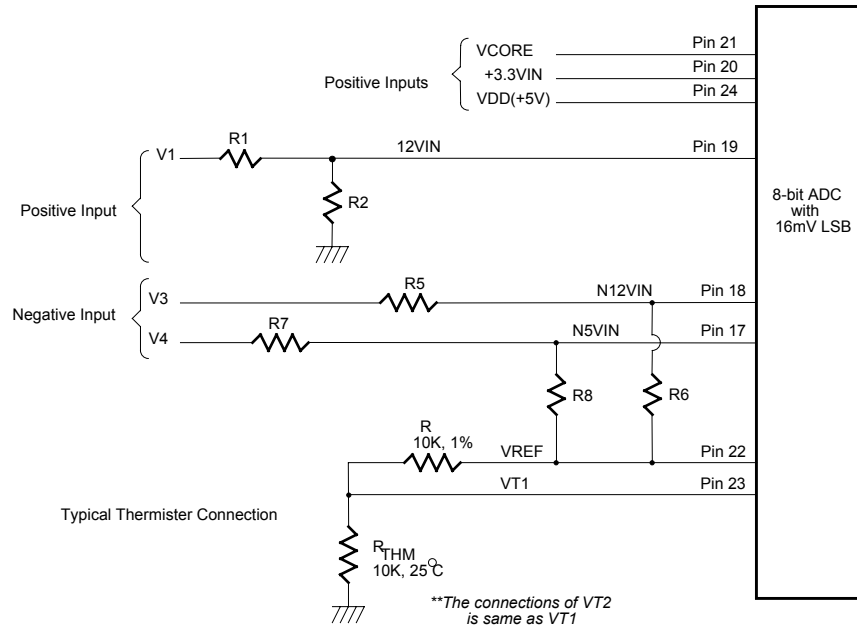

Figure 11.
The maximum input voltage of the analog pin is 4.096V because the 8-bit ADC has a 16mv LSB. Really, the application of the PC monitoring would most often be connected to power suppliers. The CPU V-core voltage, +3.3V and battery voltage can directly connected to these analog inputs. The 5VSB and +12V inputs should be reduced a factor with external resistors so as to obtain the input range. As Figure 11 shows.
The negative voltage should be connected two series resistors and a positive voltage VREF (is equal to 3.6V). In the Figure 11, the voltage V3 and V4 are two negative voltage which they are -12V and -5V respectively. The voltage V3 is connected to two serial resistors then is connected to another terminal VREF which is positive voltage. So as that the voltage node N12VIN can be obtain a posedge voltage if the scales of the two serial resirtors are carefully selected. It is recommended from Winbond that the scale of two serial resistors are R5=232K ohms and R6=56K ohm. the The input voltage of node -12VIN can be calculated by following equation.
The W83783S can connect three thermistors to measure three different environment temperature. The specification of thermistor should be considered to (1) β value is 3435K, (2) resistor value is 10K ohms at 25°C. In the Figure 11, the thermistor is connected by a serial resistor with 10K Ohms, then connect to VREF (Pin 37).